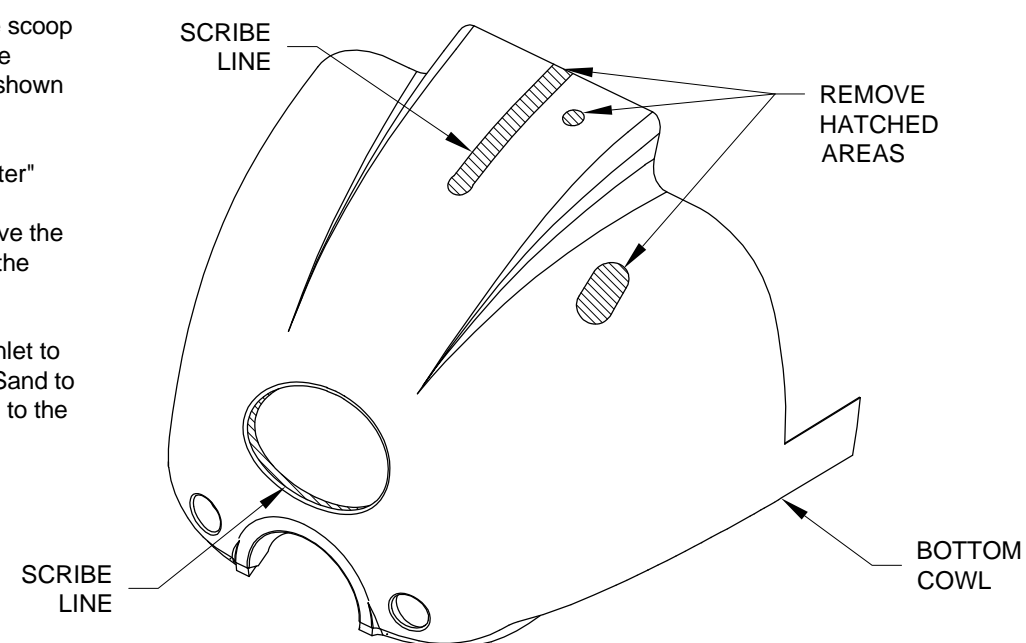

FIGURE 4: MODIFYING THE BOTTOM COWL
Step 5: Cut a slot centered on the scoop of the bottom cowl and remove the material up to the scribe lines as shown in Figure 4.
Step 6: Use a unibit to drill a "starter" hole large enough to get a file or sanding block inserted then remove the material up to the scribe lines for the holes shown in Figure 4.
Step 7: Trim the bottom cowl air inlet to within 1/8 inch of the scribe line. Sand to remove the remaining material up to the scribe line as shown in Figure 4.